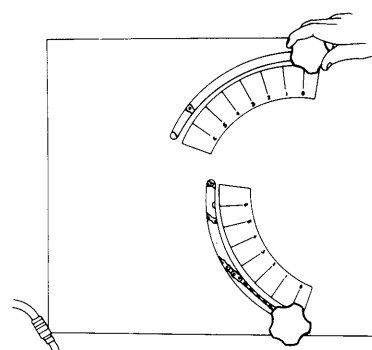
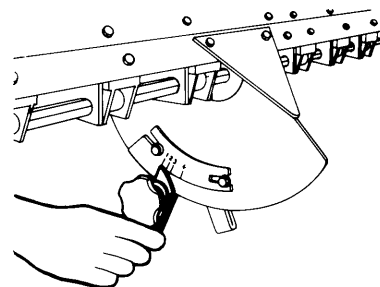

Figure 20 - Minimum Rates
Figure 21
- 3/ The adjustable gate under the fluted rollers - Figure 21
- 2/ Loosen the knurled knob (see figure 21), set the adjusting lever to the recommended position and retighten.
- 3/ Remove all blanking off caps (See figure 20) and open the gate under the fluted rollers.(see figure 21)